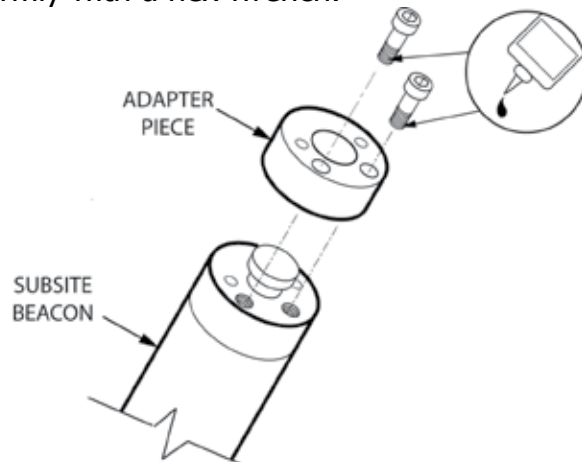

Fig. 27
1. Orient the Subsite[®] beacon to the end shown below (see Fig. 27). Apply thread lock material on screw threads. The screws are included with your kit. Position one of the two adapter pieces and fasten with one screw.